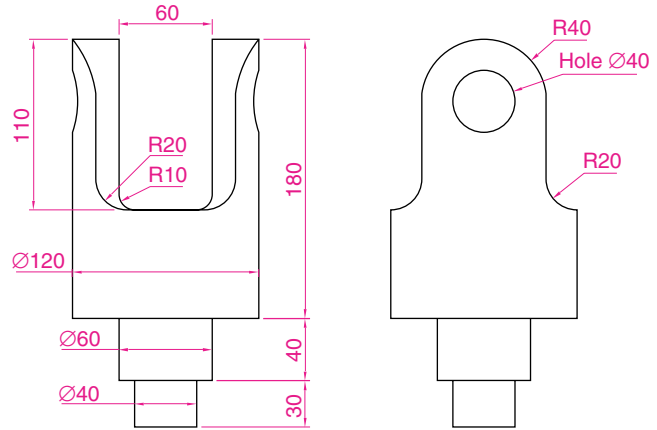

Fig. 7.3 **Front and end views** of the solid
2. Draw what is seen when the solid is viewed from the left-hand end of the front view. This produces an **end view**. Fig. 7.3 shows the end view alongside the front view.